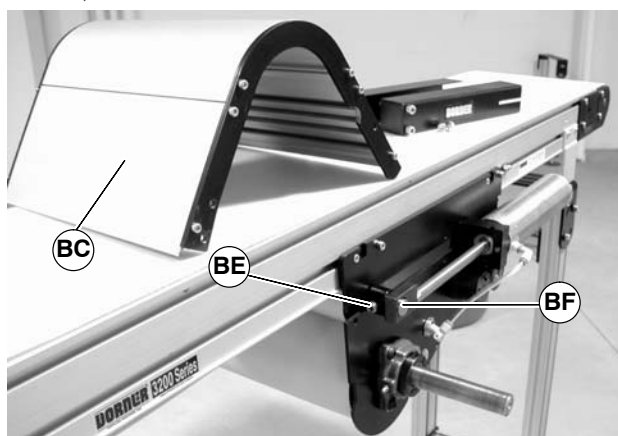
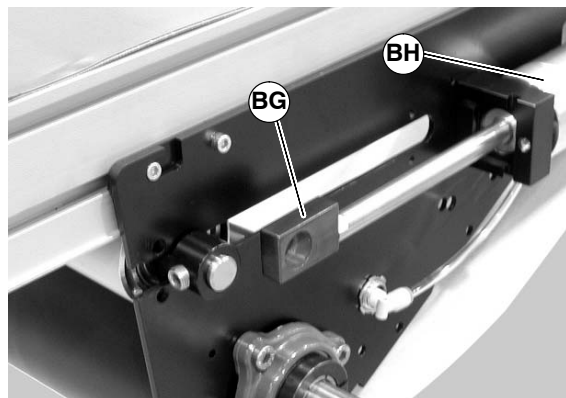

Figure 27
Figure 28
7. Loosen tensioning roller set screws (BE of Figure 27).
8. Push shaft (BF of Figure 27) through block, slide block (BG of Figure 28) towards air cylinder (BH).